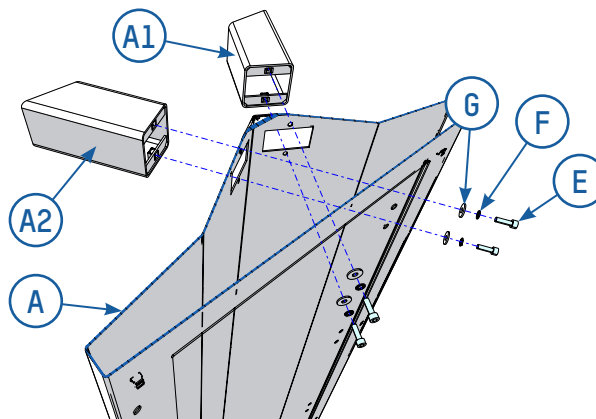

Fig. 19
If not already done, assemble the two upper arms (A1 & A2) of the central section (A) using screws (E) and washers (F & G). [⇒ Fig. 19]